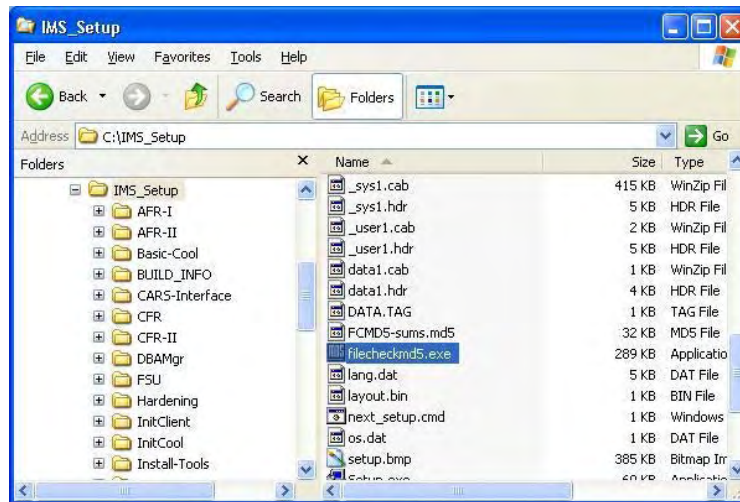

Figure 1-193. Select md5 File Check
- g. Double click on the file, **filecheckmd5.exe**, located in the right pane of the explorer (Figure 1-193).